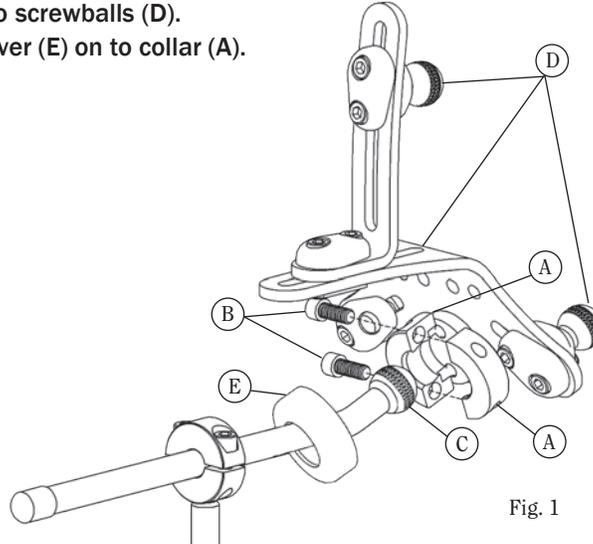

Fig. 1
3-Pad Base Plate Assembly Attachment (Fig. 1)
1. Remove bolts (Fig. 1, A) and discard bottom collar half (Fig. 1, B) of pad.
2. Evenly clamp the horizontal ball (Fig. 1, C) between the pad collar half (Fig. 1, D) and anterior support interface (Fig. 1, E).